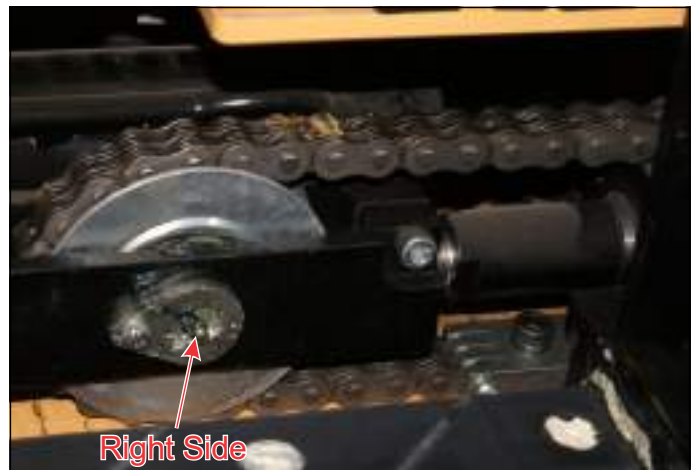

Figure 6-5: Right Side Shift Roller
5. Grease the shift chain rollers. There is one roller on each shift cylinder. You can reach the right side roller from the front with mast pivoted 90 degree. **See Figure 6-5.** The left side roller grease fitting is found by lifting the floor mat. The fitting can be seen in **Figure 6-6.** Grease the roller until fresh grease is squeezed out between the roller and roller bracket.